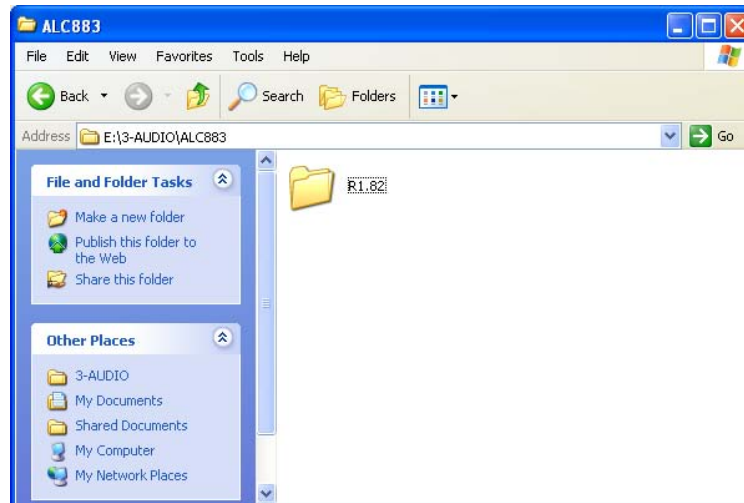

Figure 8-20: Driver Directory
Step 4: Double click the directory icon in Figure 8-20.